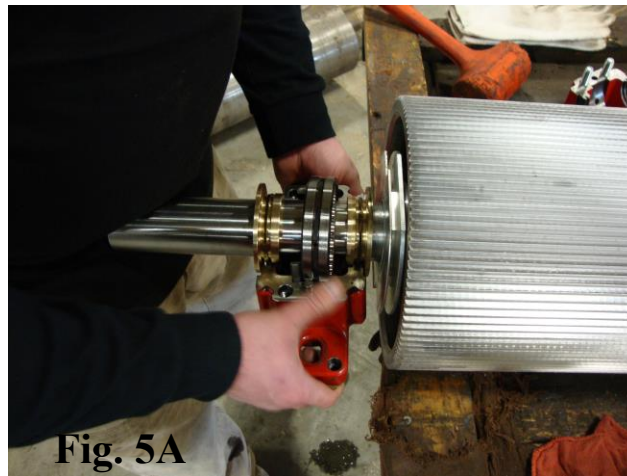

Fig. 5A
- Slide on 54 mm bearing housing seal. (Fig. 5A)